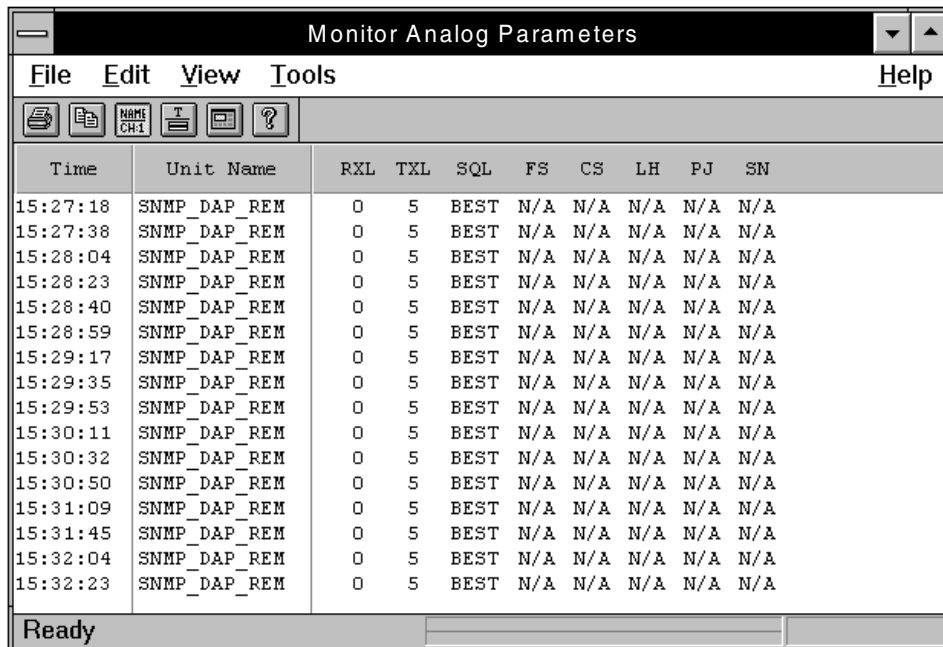

Figure 5-3. Monitor Analog Screen – Text View
- If the Graphical option is disabled, the screen shows the analog levels in text characters. (See Figure 5-3.) Values marked with a ? are taken from the previous poll of the unit; the most recent poll could not determine a new value. Values marked with a > are approximate.